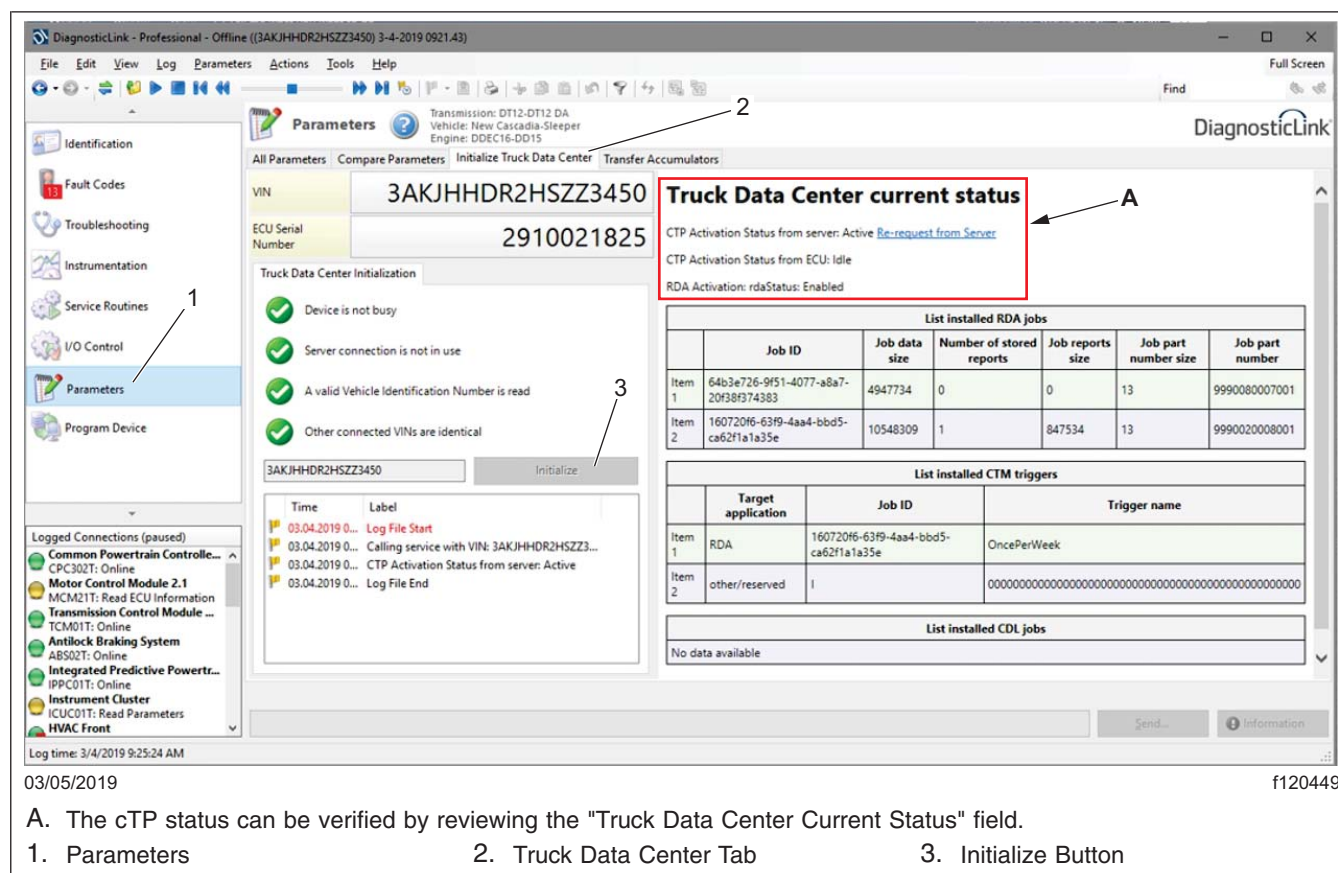

Fig. 2, Initialize Truck Data Center Panel
12. Connect the vehicle to DiagnosticLink. Click on "Parameters" then select the "Initialize Truck Data Center" tab. Run the initialization procedure by clicking on the "Initialize" button. See Fig. 2.